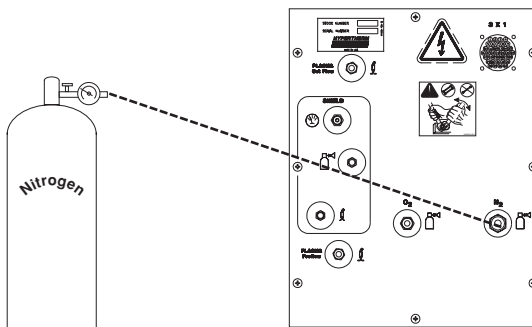

Figure 7-7 Nitrogen Supply to N2 Input of Gas Console
6. Connect the nitrogen supply hose to the N2 connection of the gas console. See Figure 7-7.